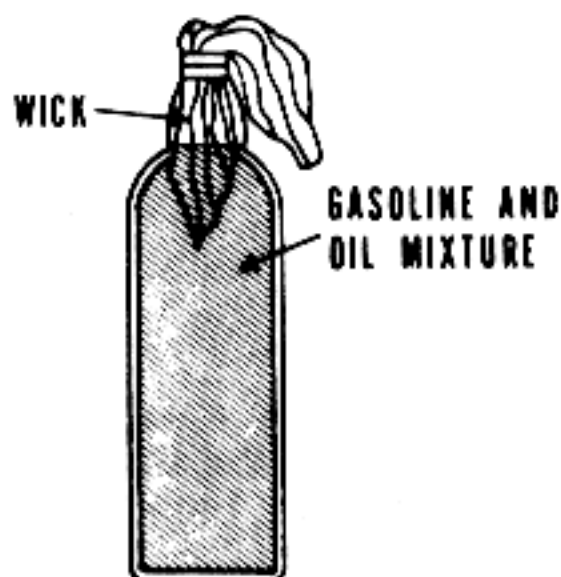

Figure 11
(1) Molotov Cocktail - Figure 11